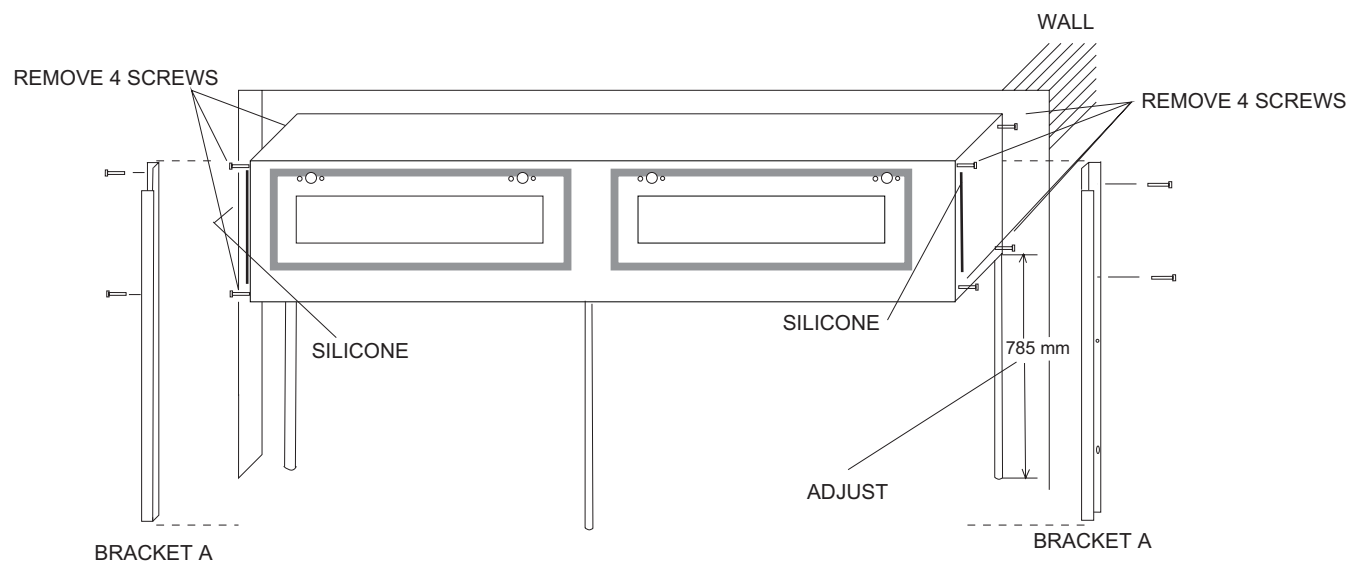

figure 14-4
See figure 14-4.
- 3.** Apply SILICONE to the SBS (see FIGURE 14-4).
- 4.** Fasten BRACKETS A with the SCREWS removed in step 2 (see FIGURE 14-4).